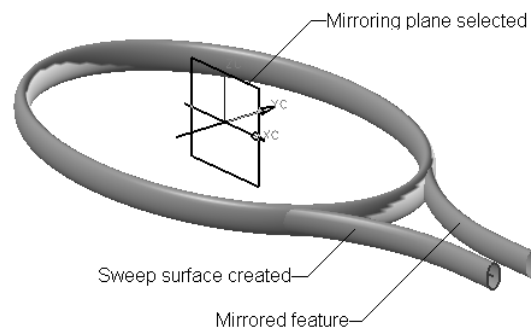

Figure 11-111 The resulting surface model after mirroring the sweep feature
1. Mirror the last surface using the XC-ZC plane as the mirror plane. The resulting surface model, after mirroring the sweep surface, is shown in Figure 11-111.